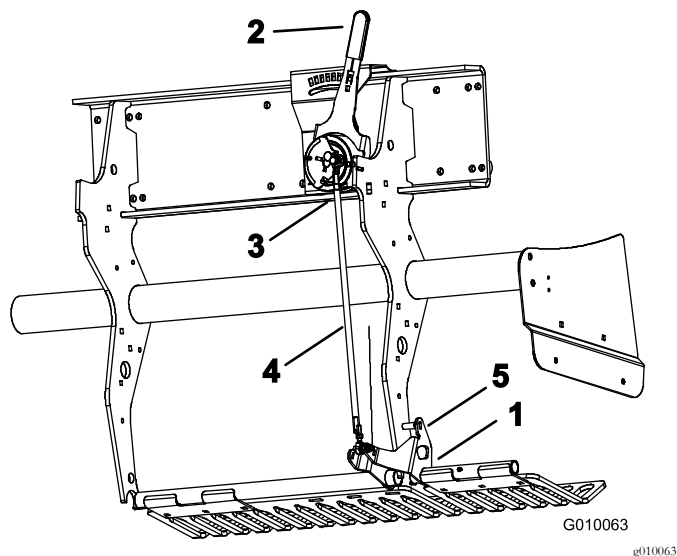

Figure 58
2. Rotate the left turf guard mounting bracket (Figure 58) up until a locking pin (5/16 drill rod or bolt) can be inserted between the bracket and the depth setting tube welded to the frame.
3. Move the tine depth lever (Figure 58) to the H setting (deepest).
4. Disconnect the outboard ball switch (Figure 58) from the wire harness (Head-Low switch).
5. Loosen the jam nuts (left and right) on the depth adjustment tie rod (Figure 58).